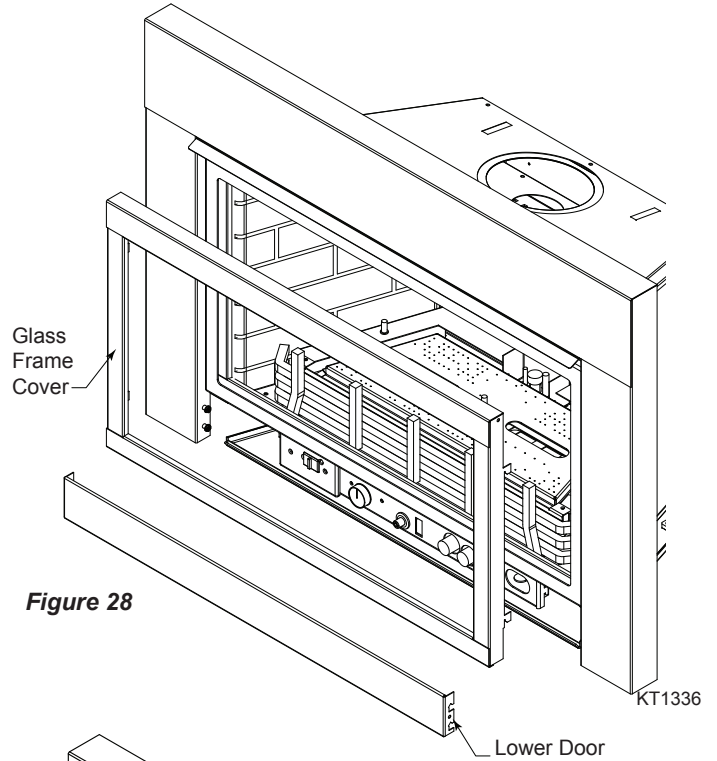

Figure 28
3. Install glass frame cover by aligning four (4) hooks on back of glass frame cover with the same four (4) square notches surround is installed in. Make sure glass frame cover is fully seated. *Figure 28*
4. Install lower door by aligning notches in door with shoulder bolts installed on bottom of surround. *Figure 28*